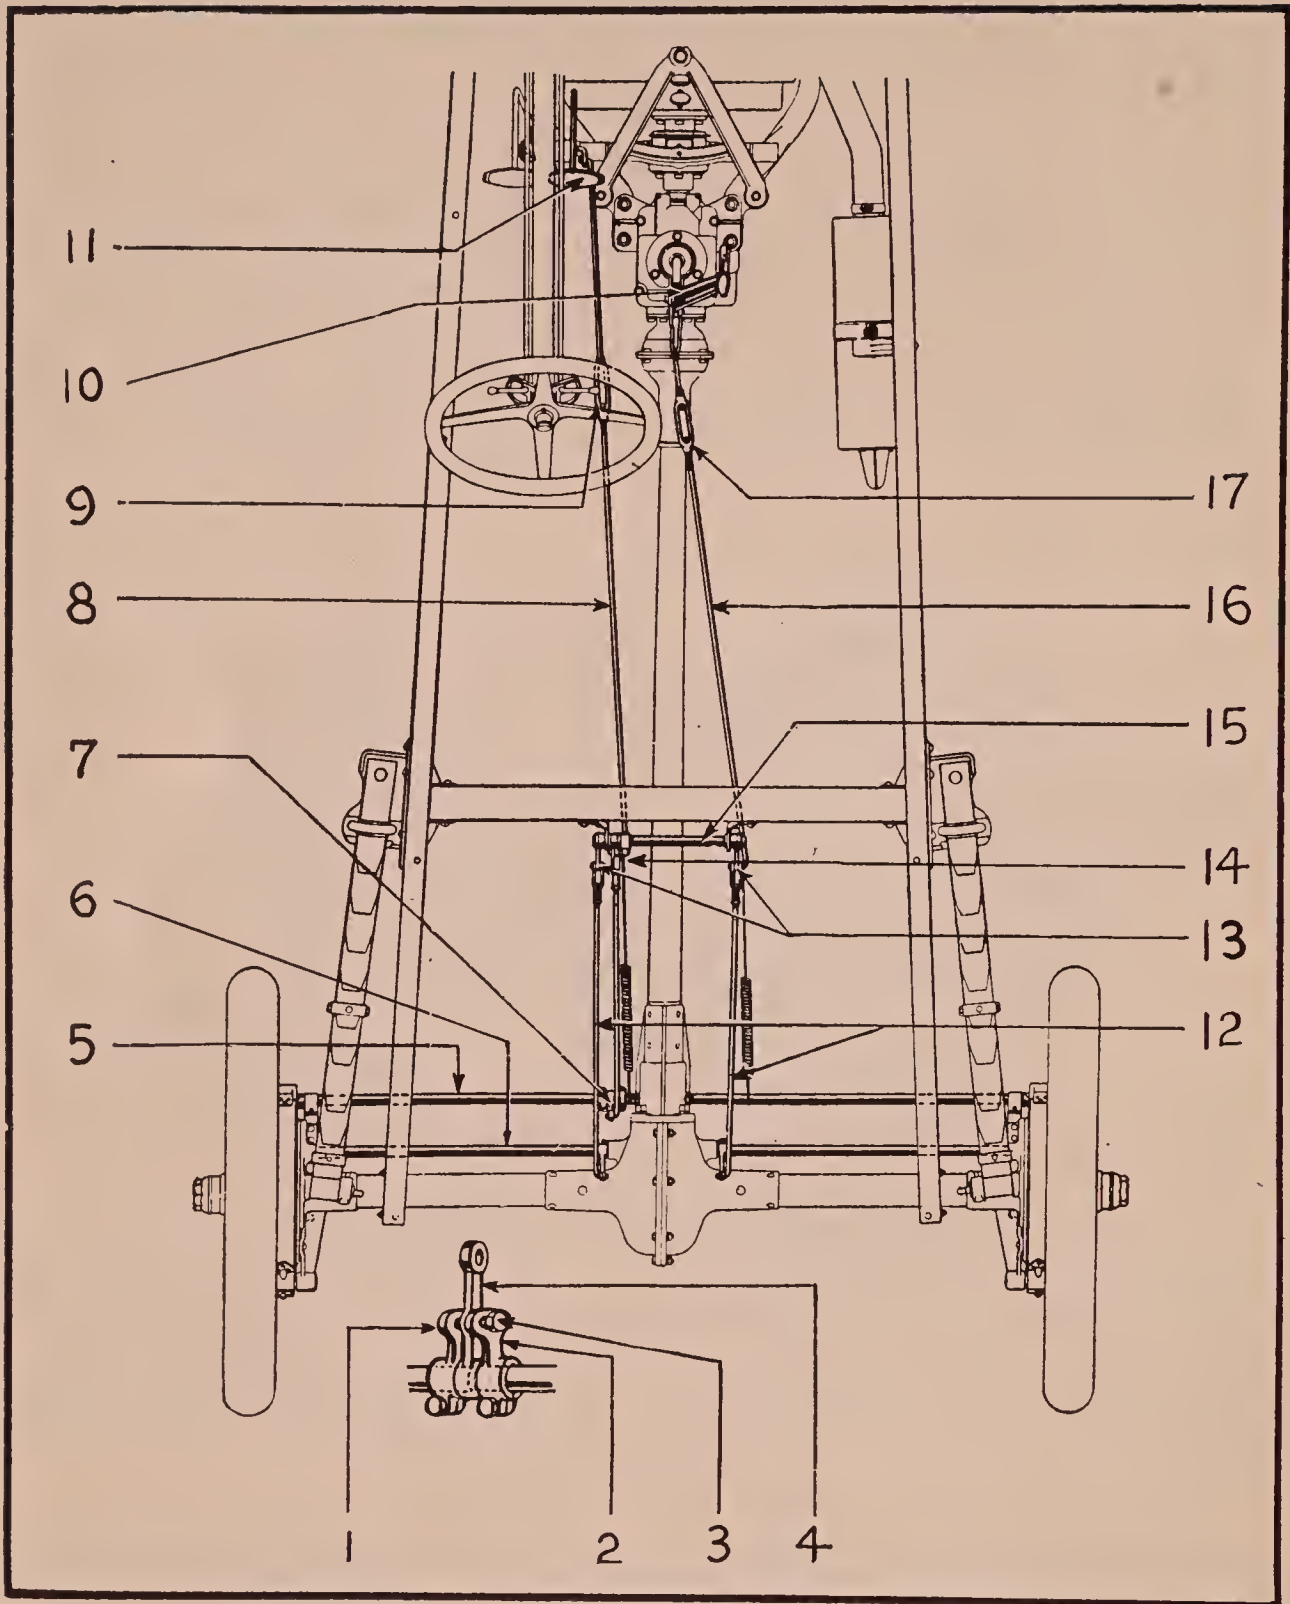

Fig. 31. Brake Mechanism
Adjusting the Brakes—Slight looseness of the brakes can be compensated by means of the two turnbuckles, (9 and 17, fig. 31), under the front floor boards; of these, one adjusts the foot brake and the other the hand.
3. Loosen the lock-nut on the adjusting-clevis (14, fig. 31) of the foot brake rod and disconnect the latter at its front end from the cross shaft lever. Shorten the brake rod by screwing the adjusting-clevis inward a few turns, connect the rod to the cross shaft lever, and securely tighten the lock-nut.
4. Start the engine and speed up the rear wheels, on high gear, to 20 to 25 miles (30 to 40 km.) an hour. Apply the foot brake and note whether **both** wheels come quickly and **simultaneously** to rest. If one wheel stops more slowly than the other, loosen the clamp-screw (3, fig. 31) and push the adjusting-lever (1 and 2 fig. 31) on the slow-stopping wheel's side slightly ahead, being careful not to disturb the position of the other adjusting-lever, and securely tighten the clamp-screw. If both wheels come slowly to a stop, shorten the foot brake rod (8, fig. 31) by means of its turnbuckle (9, fig. 31).
Be careful not to shorten the brake rod (8, fig. 31) more than is necessary, as this would cause the brake lining to rub against the brake drums and would result in rapid wear. It should be possible quite readily to move a heavy card, say, $\frac{1}{32}$ " (0.8 mm.) in thickness, completely around the brake drum, between it and the brake lining, when the brake is correctly adjusted; a smaller clearance will cause the brake to drag or bind—the wheel will not turn as freely as it should and the brake will heat and wear rapidly.
1. Jack up both rear wheels; loosen the turnbuckle (17, fig. 31) on the brake rod connected to the hand brake lever.
3. Try to turn each rear wheel by hand. If either wheel can be moved, shorten the brake rod (12, fig. 31) on the loose side by means of its adjusting-clevis (13, fig. 31).
Caution—In adjusting either the foot or the hand brakes, there is one point that must be very carefully watched: the positions of the brake cross shaft levers (15, fig. 31). When the brakes are fully released, these levers should point downward and toward the rear; if they point forward or are vertical, the brakes can not be as completely applied as is otherwise possible, for the distance the levers can then be moved in applying the brakes will be proportionately shortened and the full braking effort therefore can not be obtained. The brake cross shaft levers can be maintained in their proper positions only through correct adjustment of the foot brake bands and the adjusting clevises.